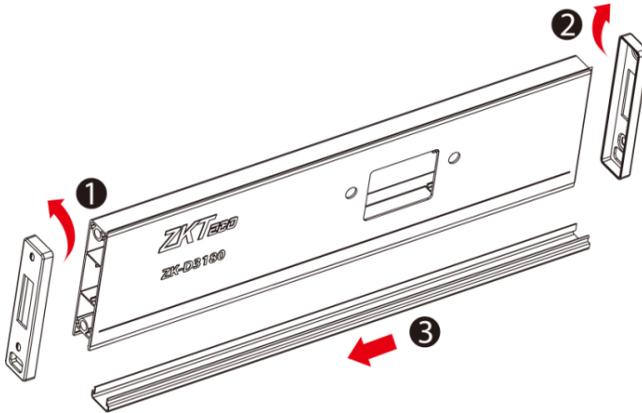

Figure 3-4
Step 4: Open the left and right cover of the front beam, push out the lower cover, as shown in the figure 3-4 below.